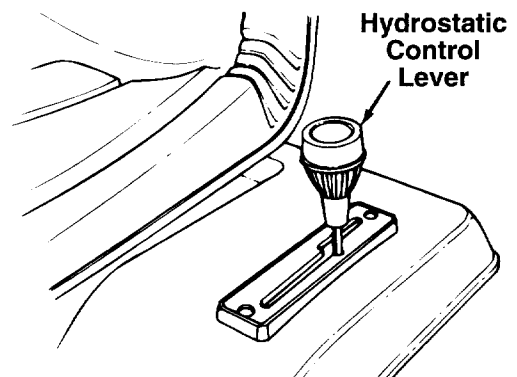

FIGURE 17.
The hydrostatic control lever is located on top of the fender on the left side of the tractor. This single control lever, connected to the hydrostatic transmission, controls both the speed and direction of the tractor. Infinite speed control is achieved by moving the control lever forward or backward. The farther forward or backward you move the control lever, the faster you will travel. Pulling the control lever into neutral (N) area will stop the tractor. To increase rear wheel torque (pulling power), move the control lever towards neutral (N) position. The lawn tractor responds similar to shifting to a lower gear with a gear type transmission. See figure 17.